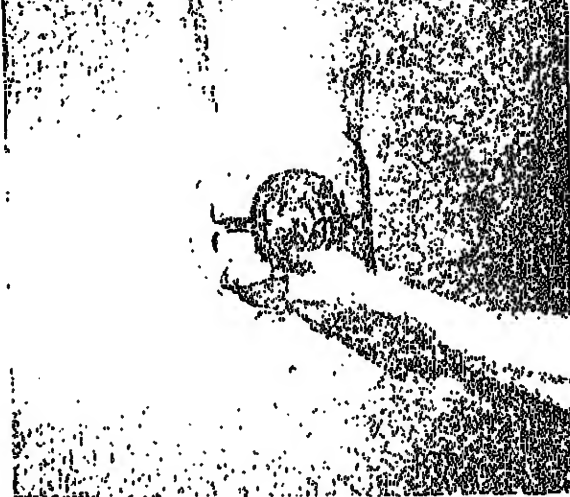

FIGURE 9-113.
d. Install each cap on the original position. Be sure groove (1) is to the outside (see figure 9-113).